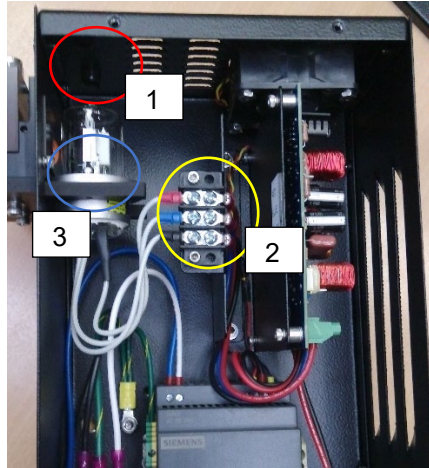

Figure 74: UV Lamp Enclosure Internal Layout
Figure 74 shows the internal layout of the UV lamp enclosure. Refer to this picture while performing the next steps of this procedure.
6. Remove the two plastic hole plugs from the top of the UV Lamp Enclosure to gain access to the lamp retaining screws. The location of these two hole plugs is indicated in Figure 74 by the red circle (#1).
7. Disconnect the three (3) lamp connection wires from the terminal strip, circled in yellow in Figure 74 (#2).
8. Remove the two lamp retaining screws (5-40 x 3/8") from the lamp retaining ring using a 3/32" ball driver passed through the removed hole plugs. The location of the front retaining screw is marked by the blue circle (#3) in Figure 74.